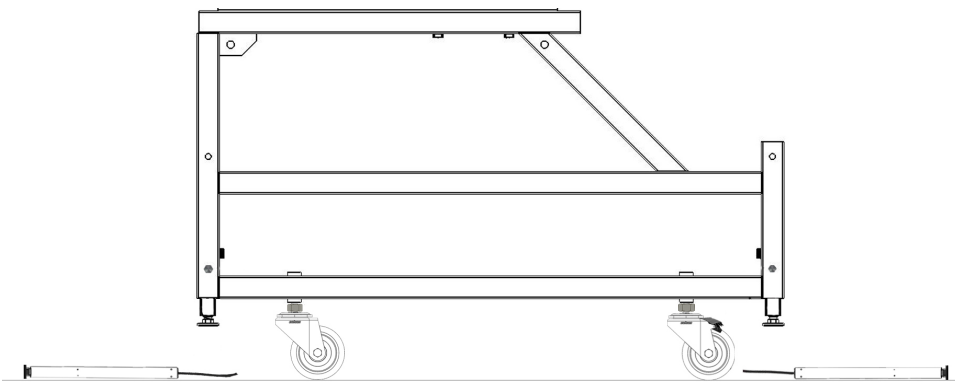

Fig. 4
5. Remove ties from hydraulic hoses one at a time and carefully place one hydraulic cylinder near each of the four corners of the table. (Fig. 4)